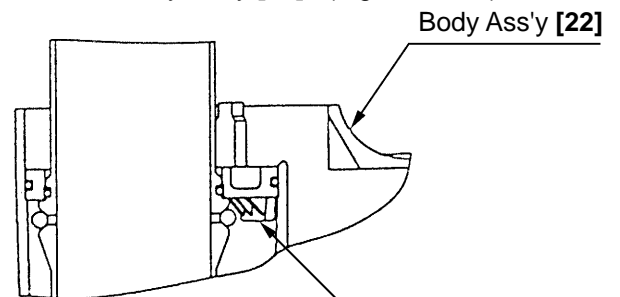

Fig. 2
- Mount the Cylinder Plate [17] to the Cylinder [20] facing the stopper portion of the Cylinder Plate [17] towards the Piston Bumper [21]. Locate the assembled Cylinder [20] so that the stopper portion of the Cylinder Plate [17] is positioned between the ribs of the Body Assy [22]. (Figs. 2 and 3)